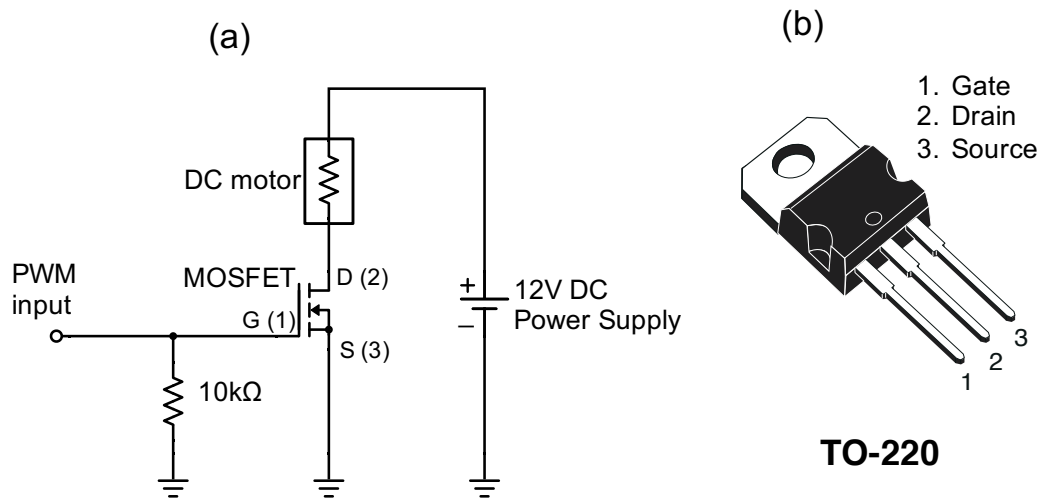

Figure 3 – The MOSFET PWM circuit from last week can be used to control the speed of a DC electric motor.
1. Construct the MOSFET PWM circuit shown in Fig. 3. This is the same circuit you used with the solenoid, but you will replace the solenoid with a DC motor.
A pneumatic cylinder uses pressure from a gas to drive a piston and rod, resulting in linear motion. Shown in Fig. 3, a 5-way solenoid valve is used to switch the compressed air P_{IN} between two outlets, P_1 and P_2 . When $P_1 > P_2$, the rod will extend to the right. The rod will retract to the left when $P_1 < P_2$. The valve also has two vents that allow the pressurized air to quickly leave the cylinder when switching occurs.
2. Connect the blue 6mm OD tubes using the push connectors, as shown in Fig. 3.